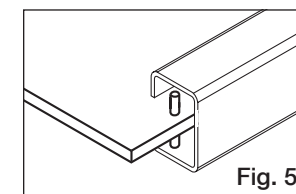

Fig. 5
- Slide top C-channel over the pins (Fig. 5) onto the top edge of the panel.